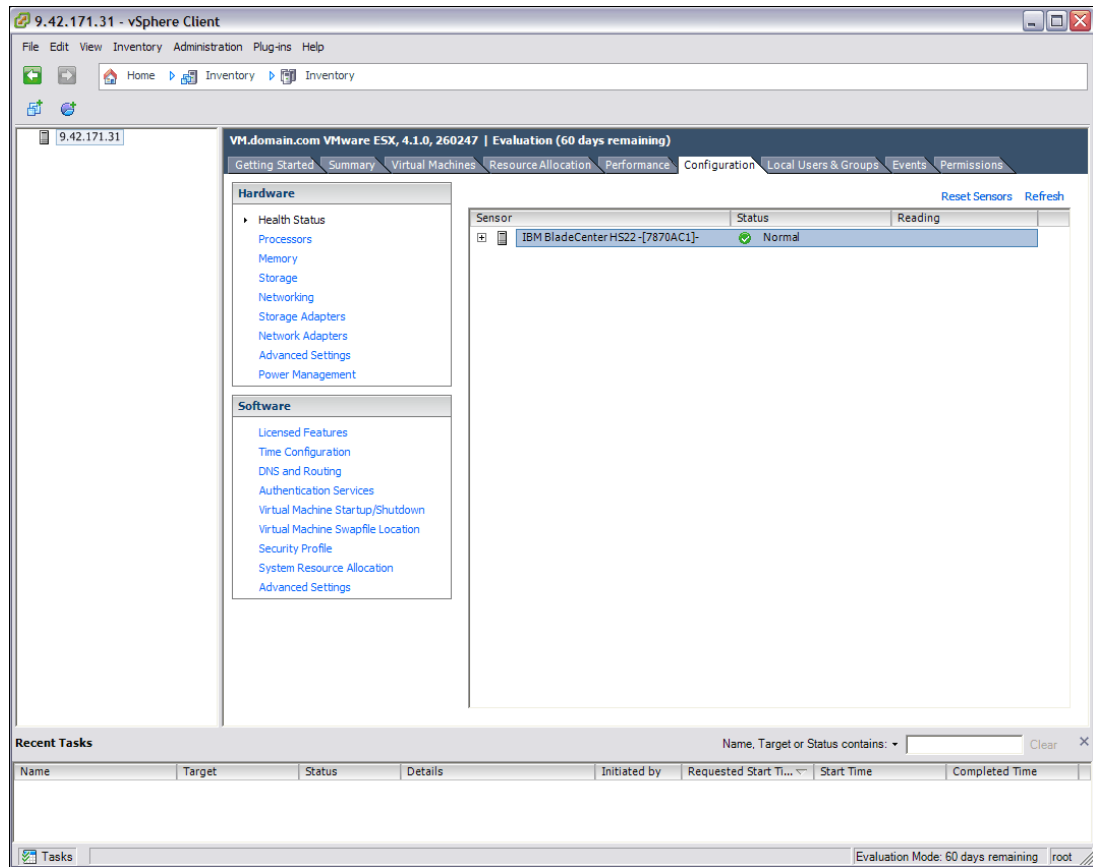

Figure 22-55 ESX Server - Configuration tab
2. Click the **Configuration** tab as shown in Figure 22-55 on page 690.